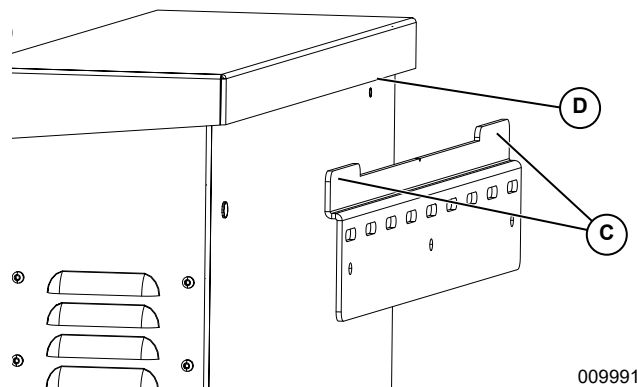

Figure 4-3. Mounting Inverter onto Bracket
4. See Figure 4-3. Insert bracket tabs (C) into inverter body slot (D).